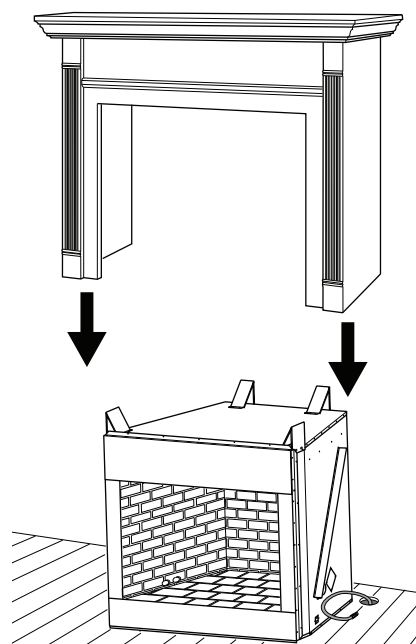

Figure 12 - Inserting Firebox Into Cabinet Mantel
4. Carefully slide cabinet mantel over firebox. Be careful not to scratch firebox, cabinet mantel, flooring, etc., when installing (see **Figure 12**).